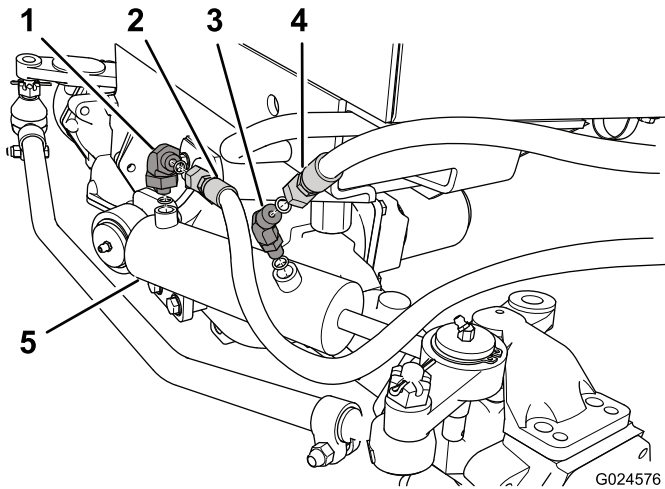

Figure 6
24. Install the 45 degree and 90 degree fittings to the steering cylinder, positioning as shown in Figure 6.
- Connect the straight fitting end of the 96 inch hose to the 45 degree fitting on the steering cylinder (Figure 6).
- Connect the straight fitting end of the 94-1/2 inch hose to the 90 degree fitting on the steering cylinder (Figure 6).